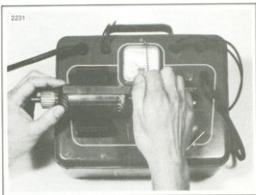

Figure 5-7. Armature Short Test
- Test the armature for short circuits using an armature growler as shown in Figure 5-7. Place the armature on the growler and turn it on.